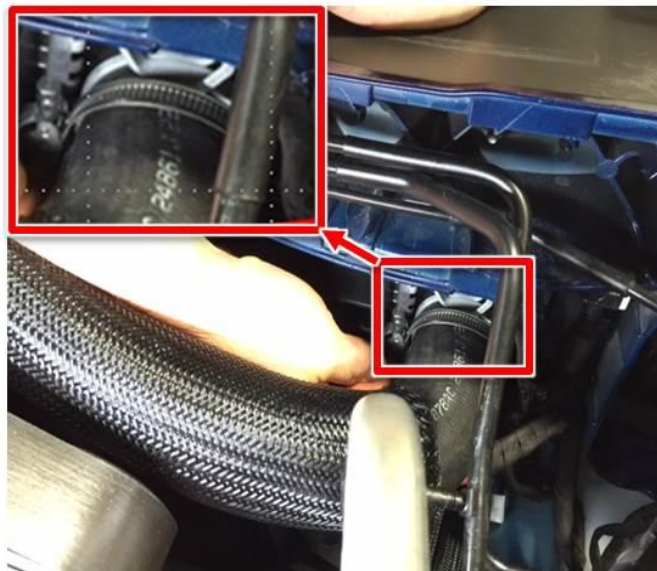

Fig. 2 Radiator Hose Clamp Orientation
4. Open the new clamp and place it over the radiator hose. The hex head of the clamp should be facing up and be oriented on the core side of the radiator. See (Fig. 2).